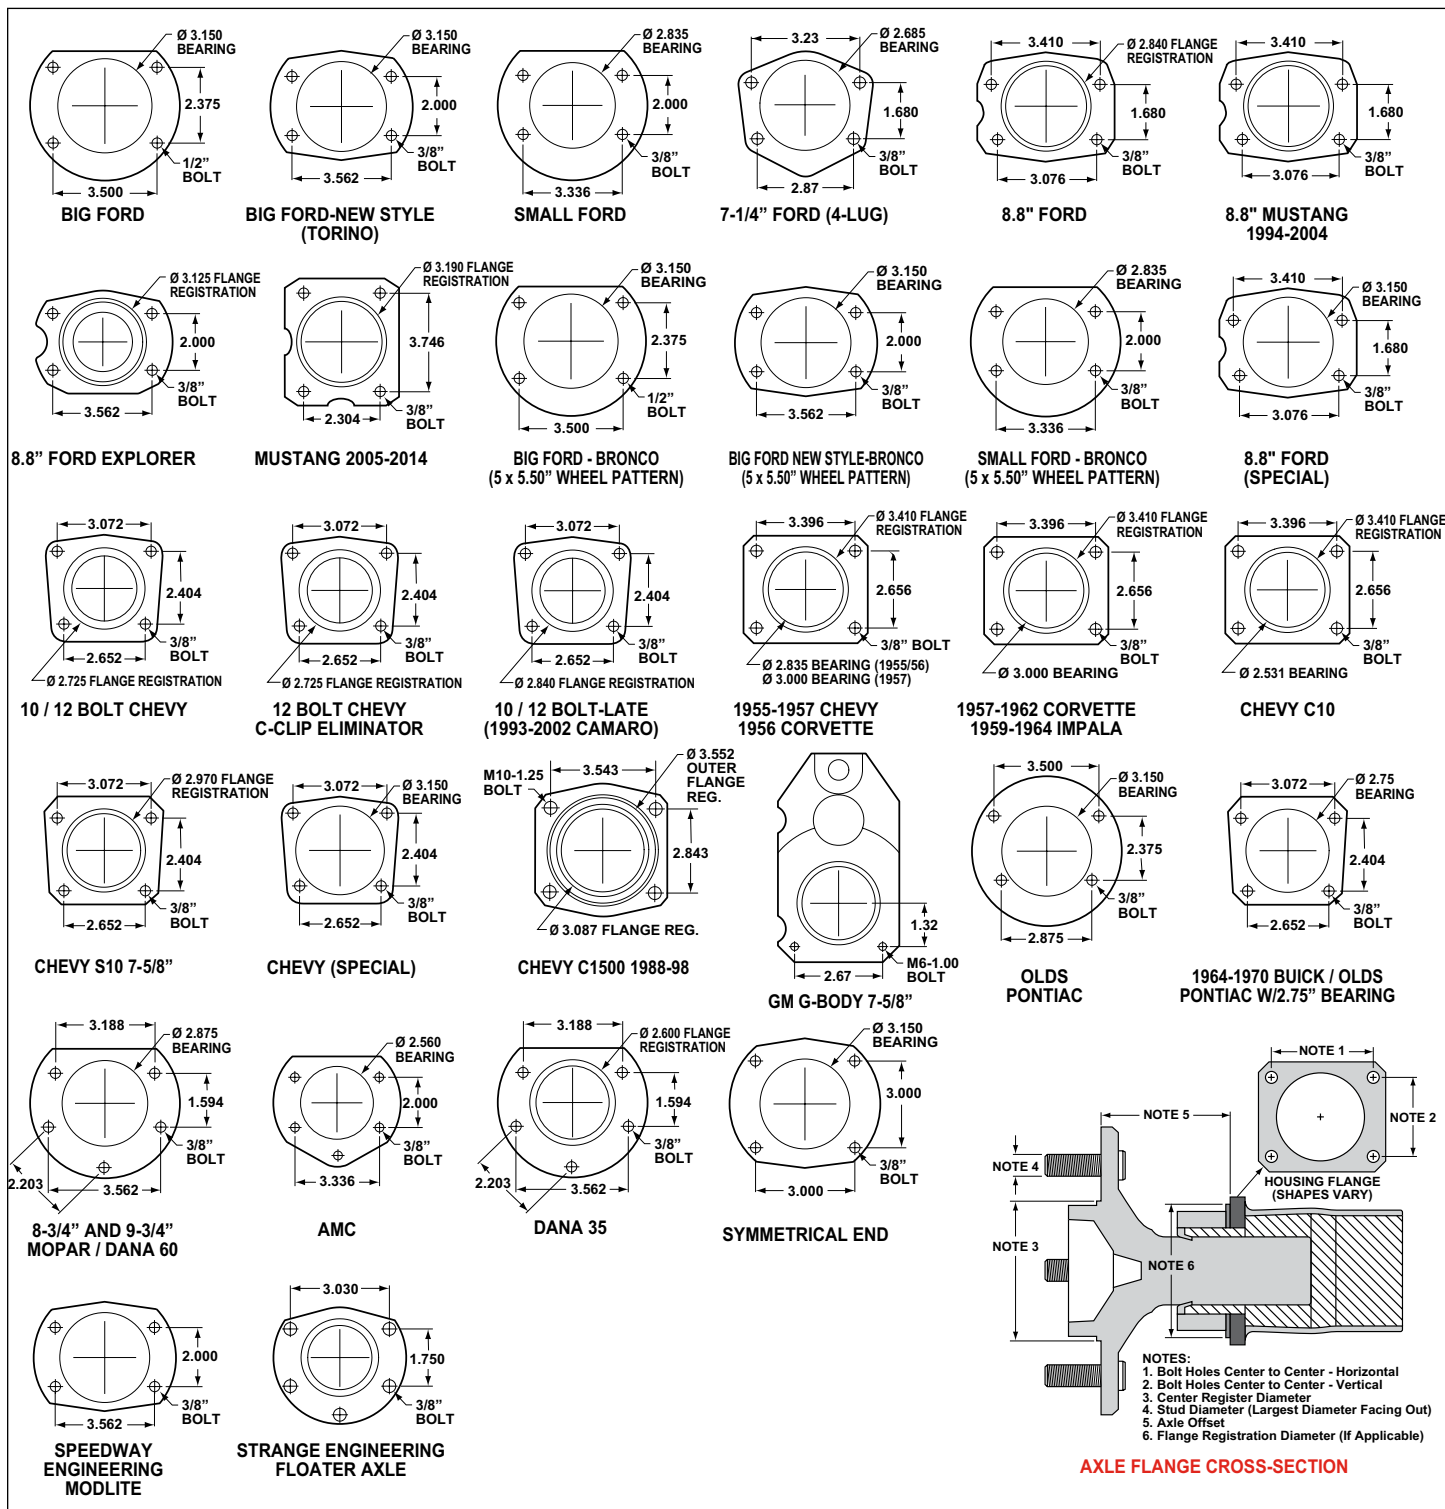

Figure 6. Rear Housing Flange Chart and Axle Flange / Offset Cross-Section
- Make sure this is the correct kit to fit the axle housing flange, not necessarily the rear end make. Many times after market manufacturers put a different make of axle housing flange on the stock rear end housing (see Figure 6). Example; Big Ford rear ends with Olds-Pontiac flanges, therefore, an Olds-Pontiac rear disc brake kit would be the correct kit to order.
- Dimension from wheel side of axle flange to wheel side of axle housing flange (see Figure 6, lower right hand corner). This dimension is critical to ensure proper alignment of the rotor to the caliper, and should match offset given in the kit description.